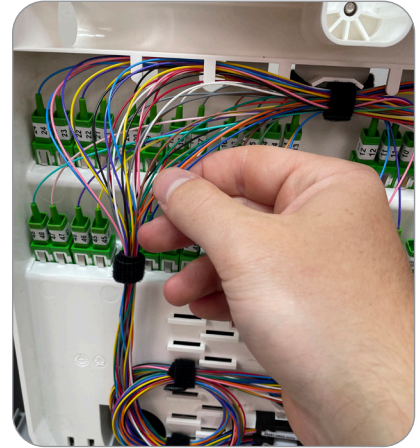

Figure 58a
3. Ensure the connectorized pigtails have the proper slack and adjust routing, if needed, to help prevent potential macrobending issues (Figure 58a).